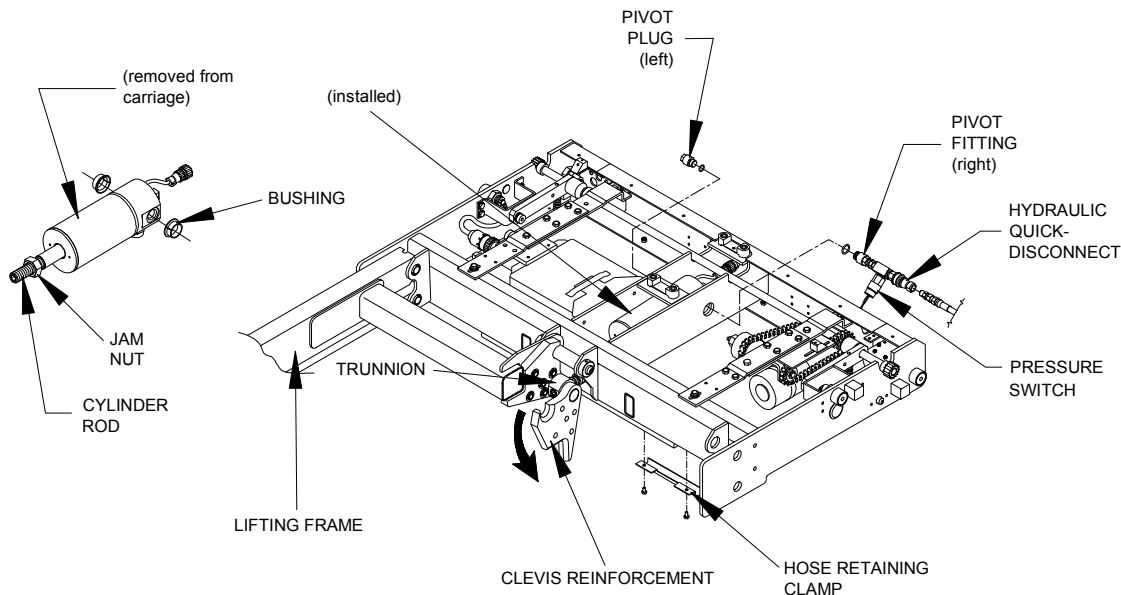

FIGURE 4-46: HYDRAULIC CYLINDER AND RELATED COMPONENTS
- 6) Refer to **Figure 4-46**. Disconnect hydraulic hose from quick-disconnect fitting; this could require removing hose retaining clamp.
- 1) Refer to **Figure 4-46 and 4-47**. Assemble jam nut and trunnion onto hydraulic cylinder piston rod. Install two cylinder pivot bushings into carriage frame (with flanges towards center of frame).
- 2) Refer to **Figures 4-46** and **4-47**. Remove hose retaining clamp from bottom of carriage. Remove hose clamp behind pull box (inside enclosure).
- 7) Refer to **Figures 4-46** and **4-47**. Install hose retainer clamp on bottom of carriage. Install hose clamp behind pull box (inside enclosure).